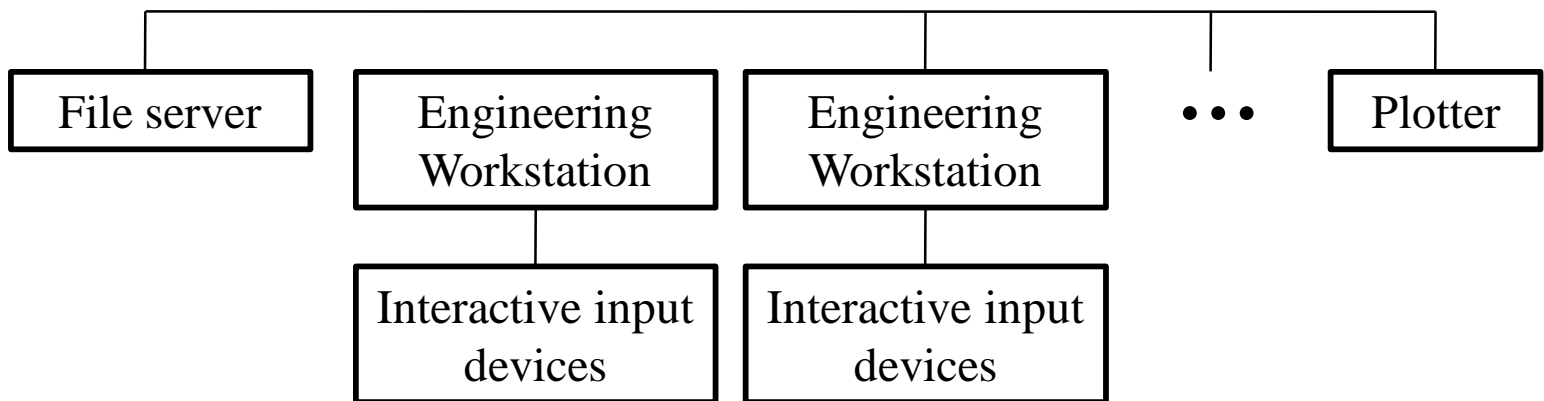

Figure 7: Hardware configuration using engineering workstations.
- This configuration is composed of engineering workstations connected in a network environment, as shown in Figure 7. Output devices such as plotters are also connected to the network.